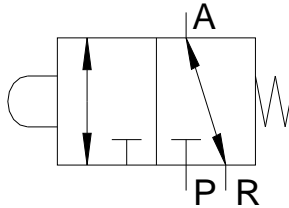

Figure 2 : port designation
3. Turn the valve into fully closed position by turning the handwheel clockwise. When the fully closed position can not be achieved, loosen the stopscrew-close (see figure 2). Continue turning the handwheel until the valve is fully closed.